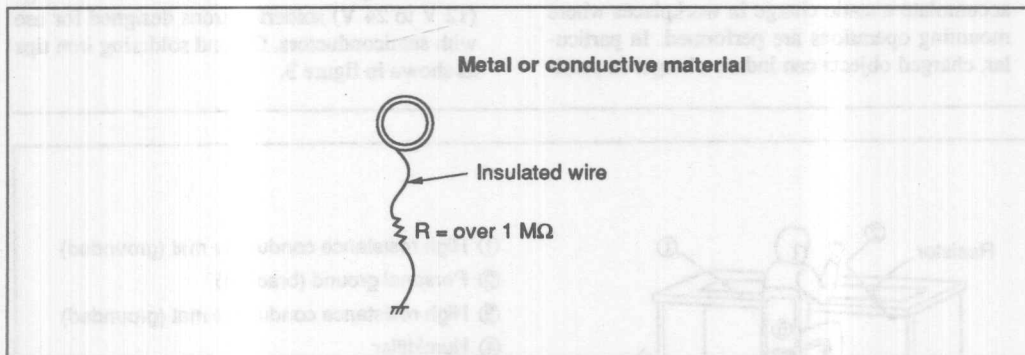

Figure 2 Personal Ground
3. Personnel should wear grounding bracelets on their arms or legs. To prevent electric shocks, insert a resistor of 1 M $\Omega$  or greater in series as shown in figure 2.